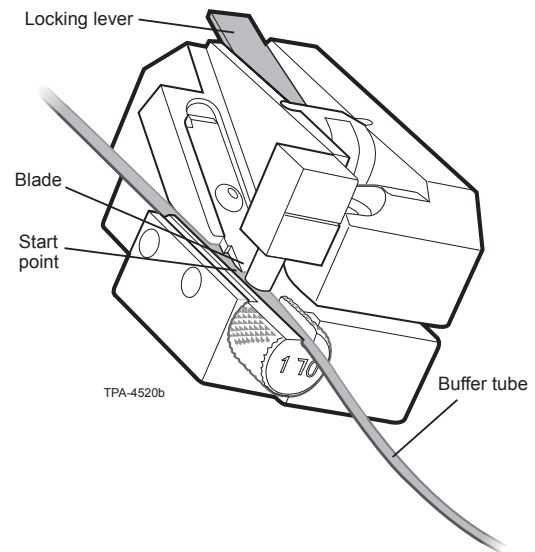

Figure 20
- a. Unlatch the locking lever and open the tool. Note where the leading edge of the blade will make contact with a buffer tube placed in the metal holder (Figure 20).